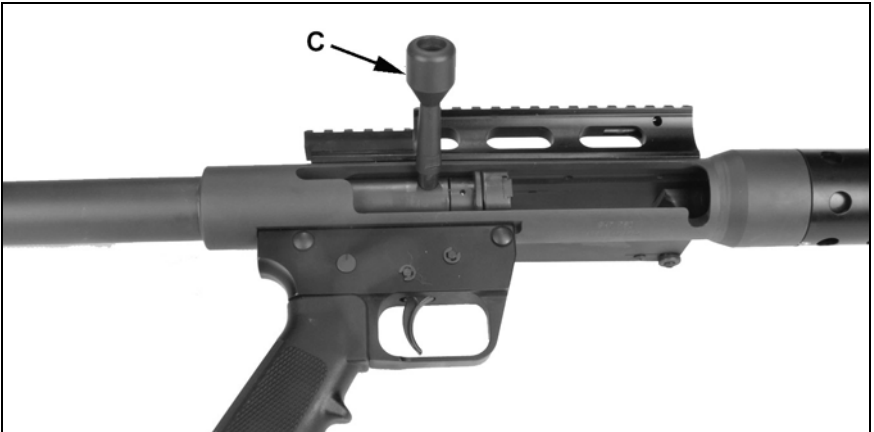

Figure 27
3. Using a $\frac{3}{8}$ wrench, turn bolt handle (C) counter clockwise to remove. See figure 27.